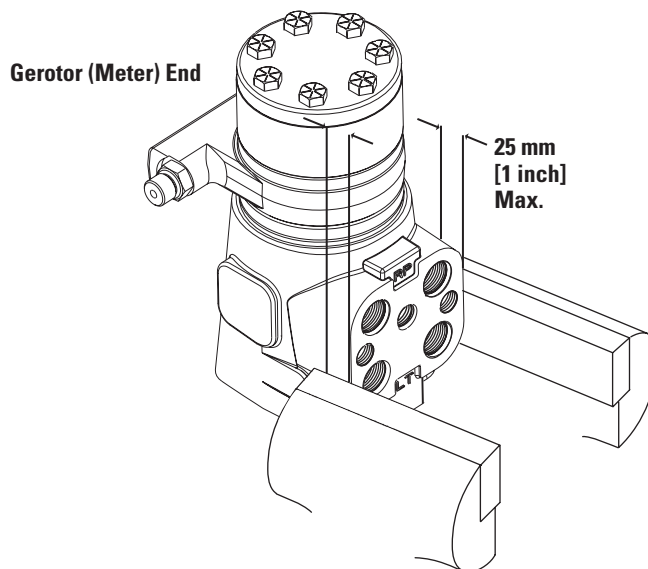

Figure 1
1. Clamp unit in vise, meter end up. Clamp lightly on edges of port face sides (see figure1). Use protective material on vise jaws. Housing distortion could result if jaws are overtightened.